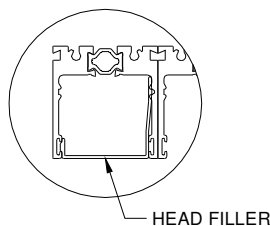
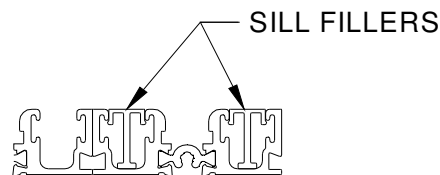

Figure 29:
Figure 30:
- When applicable, use a soft mallet to install Head (Figure 29), Jamb, and Sill Fillers (Figure 30) into all tracks where they do not interfere with the operation of the system.